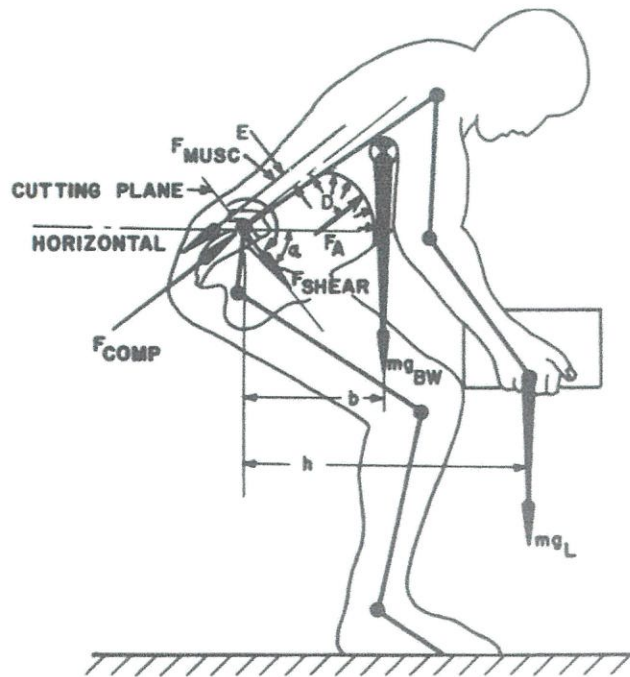

Figure Q2(a)
**Q2 (a)** Lifting has been the subject of research for many years. The reasons that triggered this interest in lifting are its believed association to low back pain. **Figure Q2(a)** shows a low-back biomechanical model of static coplanar lifting and given the following the kinematic and anthropometric data as shown in **Table 1**. Taking a moment around L5/S1 joint and equating it to zero, analyze and evaluate the muscle force ( $F_m$ ), Spine compressive force ( $F_c$ ), and spine shear force ( $F_s$ ).